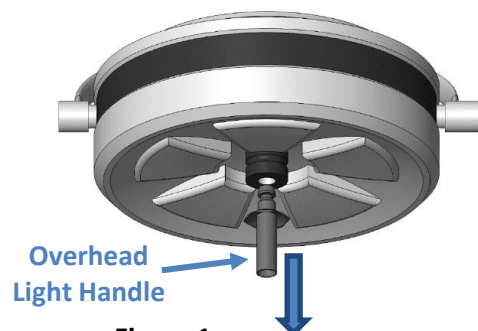

Figure 1.
- 1) Remove the existing handle attached to the overhead light, as shown in Figure 1, per the overhead light's Instructions for Use. Contact the manufacturer of the light if instructions for removing the handle are not included.